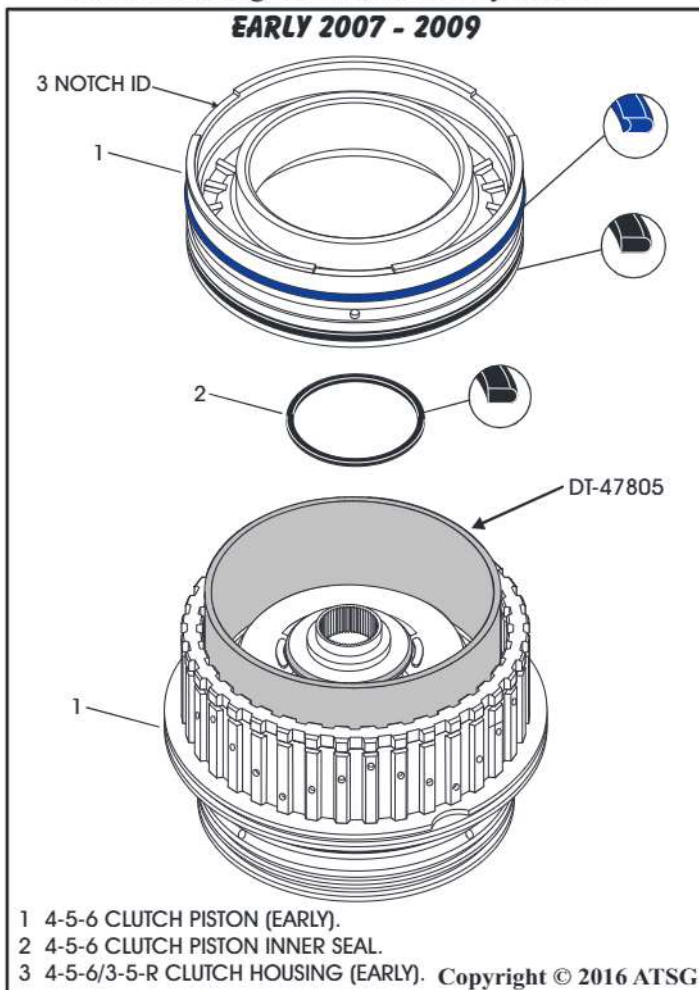

Figure 106
43. Install new 4-5-6 clutch piston **"Stepped", Blue** outer seal into the upper groove, as shown in Figure 106.
44. Install new 4-5-6 clutch piston **"Rounded", Black** outer seal into the lower groove, as shown in Figure 106.
45. Install new 4-5-6 clutch piston inner seal into the clutch housing, as shown in Figure 106, and lube with small amount of transmission fluid.
46. Install the DT-47805 seal protector as shown in Figure 106.
47. Lube the 4-5-6 clutch piston outer seals and the inside diameter of piston with small amount of transmission fluid, (See Figure 106).
48. Install 4-5-6 clutch piston assembly into housing, as shown in Figure 106, until fully seated.
54. Install the DT-47805 seal protector as shown in Figure 106.